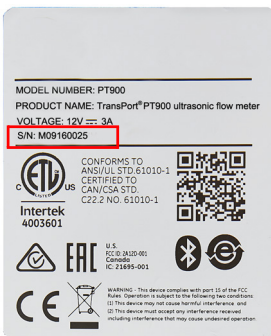

Figure 8: Transmitter Serial Number
**Note:** In the above step, your PT900 transmitter is identified by the serial number on its label (see Figure 8 below).